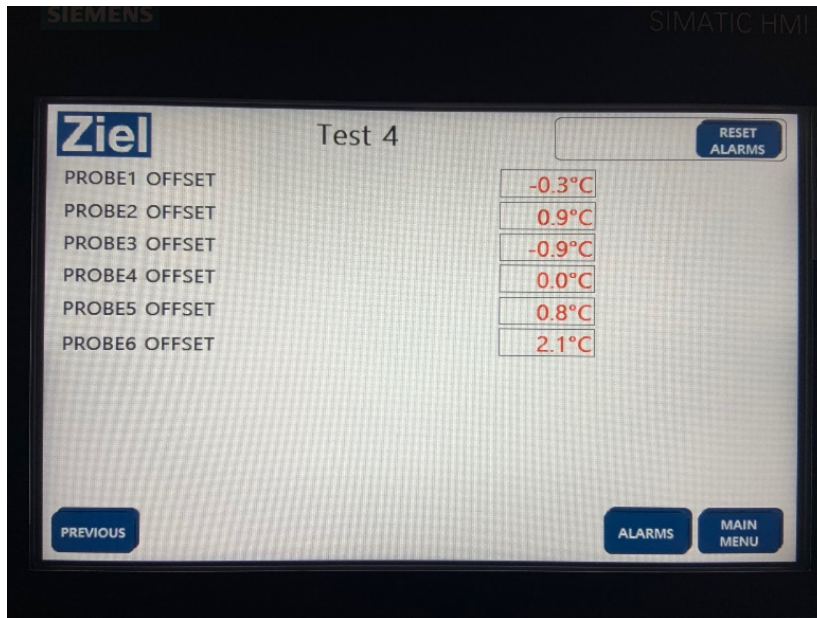

Figure 2. Probes calibration page.
11. On the PROBES CALIBRATION page, enter the correction factor value in the right hand box corresponding to the probe number. (Figure 2).